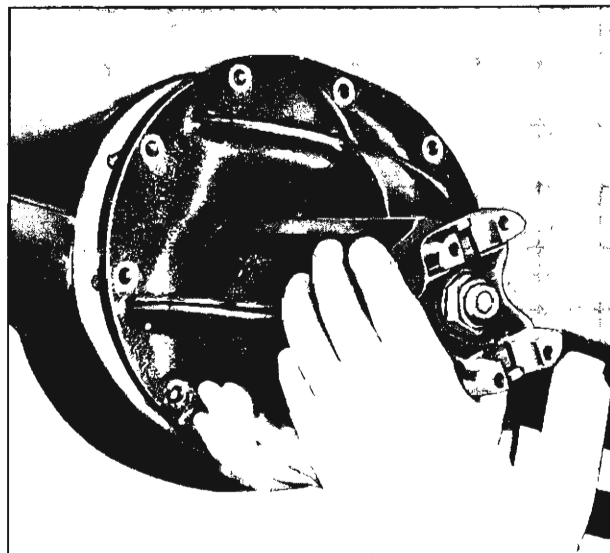

Fig. 12—Removing Differential Carrier
4. Remove drain plug and allow rear axle lubricant to drain into a drip pan. Remove sealing lock nuts which attach differential carrier to the axle housing. Remove differential carrier assembly (fig. 12).